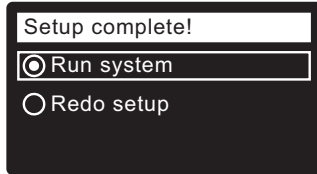

FIG. 31
14. Press the SELECT (O) button. The screen will show “Setup complete!” (See Figure 31).
15. If, at this point, you want to go back and make changes, press the DOWN (▼) button to scroll to **Redo setup**, then press the SELECT (O) button twice to repeat the “wizard” screens.
16. If no changes are desired, make sure **Run system** has a dot next to it (See Figure 31) and press the SELECT (O) button. The unit begins normal operation.